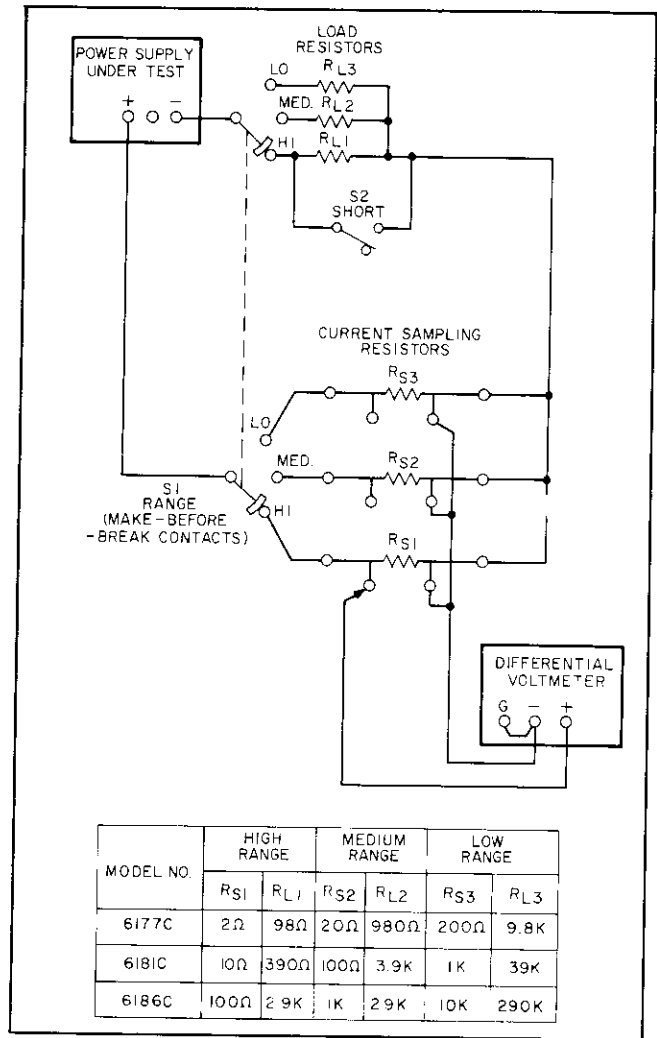

Figure 5-3. Output Current Test Setup
5-9 The monitoring device is connected across the sampling resistors as shown in Figure 5-3. As indicated in this illustration neither output terminal of the power supply is grounded and the measuring device case is connected to the junction of the load and sampling resistors. This arrangement prevents ground loop paths and shunt current paths. Notice that shunt resistance paths between the external switches and ground can exist. However, since the shunt resistance appears across only one of the external resistors and not across the entire output terminals of the supply, the performance of the supply is not degraded.
- a. Connect test setup shown in Figure 5-3, leaving switch S2 open throughout test.
- a. Connect test setup of Figure 5-3 except connect the differential voltmeter between the guard (terminal A0) and - output terminals (see Figure 3-7 for voltmeter connections).
- a. Connect test setup shown in Figure 5-3.
a. Utilize test setup shown in Figure 5-3, except connect variable auto-transformer between input power source and power input to supply. Leave switch $S2$ open throughout test.
a. Use test setup of Figure 5-3, except connect ac voltmeter across sampling resistors instead of differential voltmeter. Ensure that power supply output is floating to avoid ground loops.